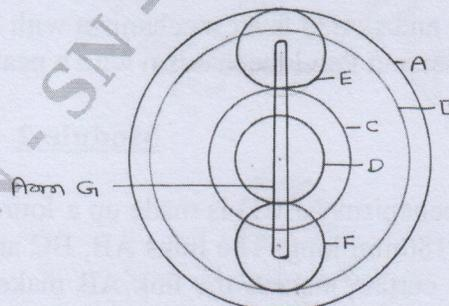

Fig.Q6(a)
- 6 a. In an epicyclic gear train shown in Fig.Q6(a). The internal wheels A and B and the compound wheel C and D rotate independently about axis O. The wheel E and F rotate on pins fixed to arm G. E gear with A and C, and F gear with B and D. All the wheels have the same module and the number of teeth are  $T_C = 28$ ,  $T_D = 26$ ,  $T_E = T_F = 18$ .